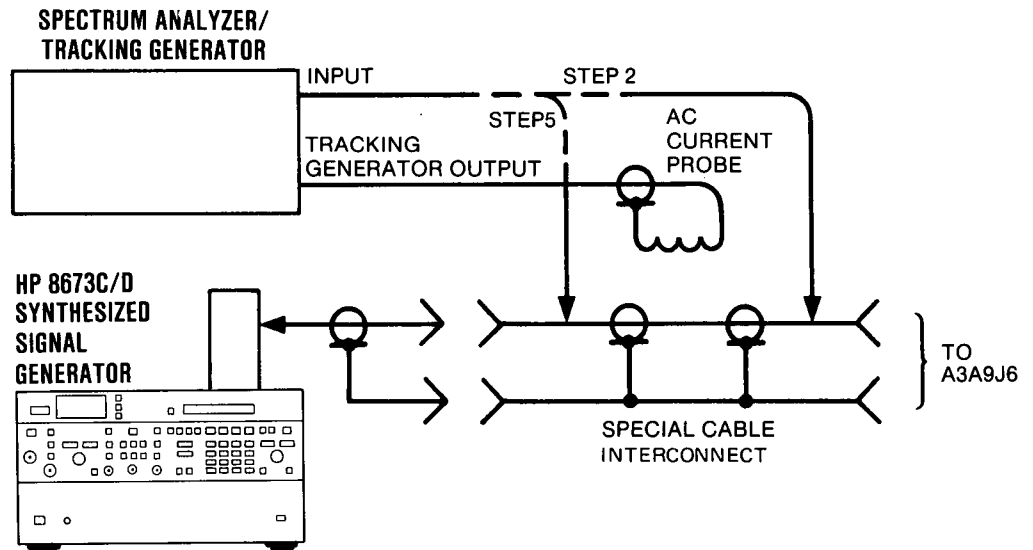

Figure 5-14. YTO Loop Phase Detector Adjustment Test Setup
2. Connect the equipment as shown in Figure 5-14. The special interconnect cable is inserted between A3W16 (gray cable) and A3A9J6 (YTO TUNE 1).